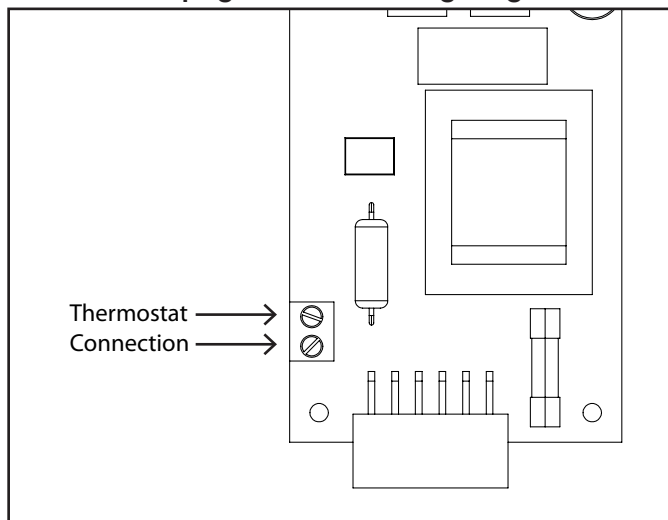

Figure 21: Back of Circuit Board
- The white wires from the HDK will have no connectors and will be wired to the Thermostat connection on the back side of the circuit board. The circuit board will need to be detached from the frame, a small flat head screw driver will be required to secure the wires, see Figure 21.